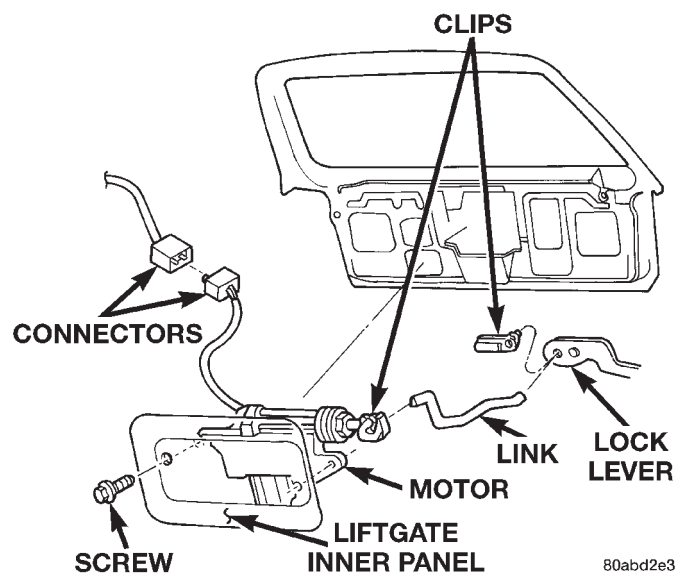

Fig. 6 Liftgate Power Lock Motor Remove/Install
(7) Remove the liftgate trim panel from the vehicle.
(8) Reach through the liftgate inner panel access hole and disconnect the link from the clip on the power lock motor (Fig. 6).
(9) Remove the two screws that secure the power lock motor to the liftgate inner panel.
(10) Pull the power lock motor out through the liftgate inner panel access hole far enough to reach the wire harness connector.
(11) Unplug the wire harness connector from the power lock motor.
(12) Remove the power lock motor from the liftgate.
(13) Reverse the removal procedures to install. Tighten the power lock motor mounting screws to 3 N·m (28 in. lbs.).